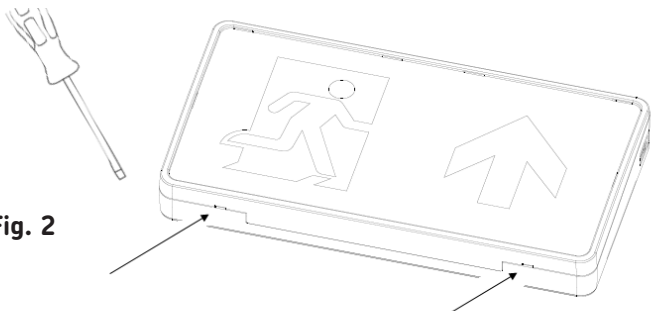

Fig. 2
- Open the fitting by inserting a small flat-head screwdriver into the two tabs on the underside and lever open gently (see Fig. 2)